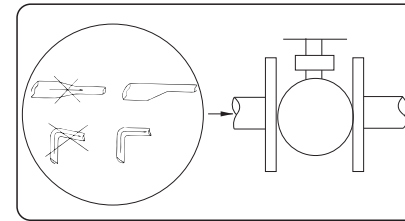

fig.2
- 6.4 Electrical connection should be carried out by an authorised electrician in accordance with local regulations. (See fig.2)